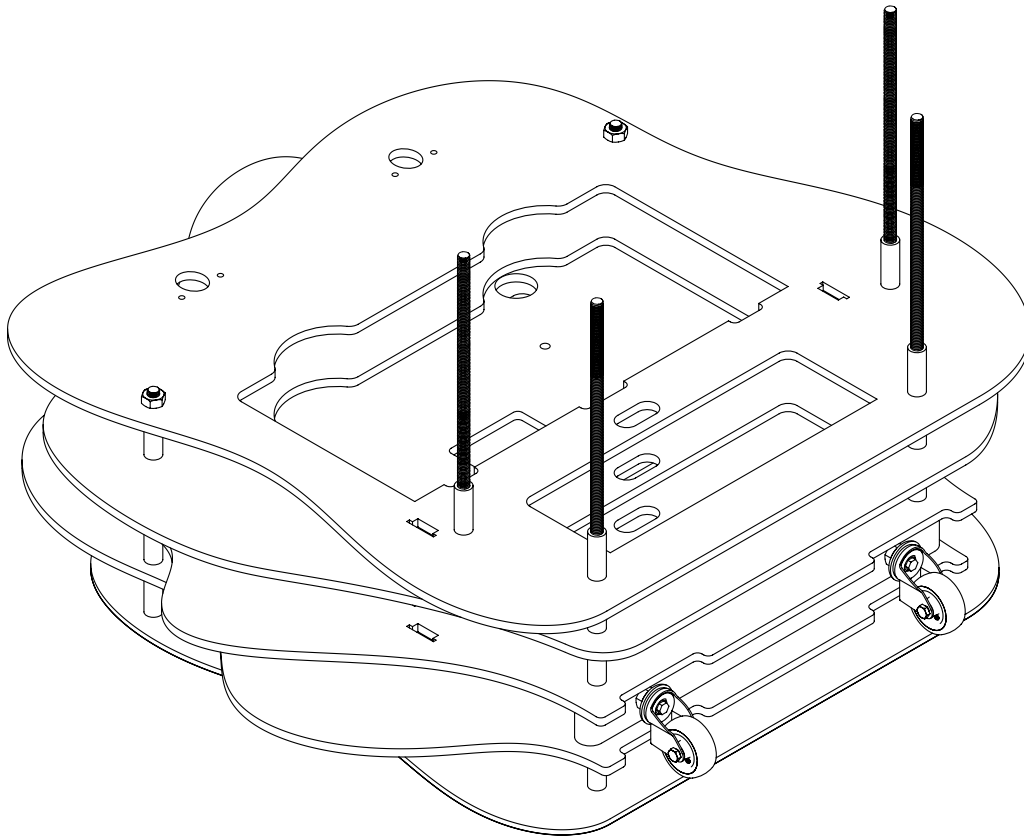

Figure 2.
- Repeat the operation for all panels, inserting also the other 2 threaded rods to panel 5 (Figure 2)